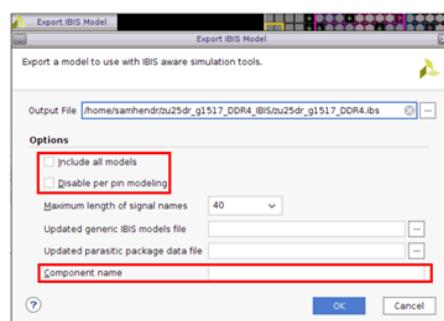

Figure 32: Export IBIS Model Options
- The Export IBIS Model window will open (Figure 32). Set the output path, ensure “Include all models” and “Disable per pin modeling” boxes are not selected. Component name can be assigned, but not necessary.